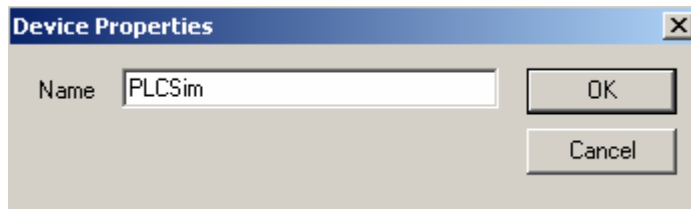

Figure 4.3. Device Properties
2. In the **Device Properties** dialog, type in the name "PLCSim" and then click **OK**, as shown in Figure 4.3. The new **PLCSim** device will appear in the tree control of the Configurator.